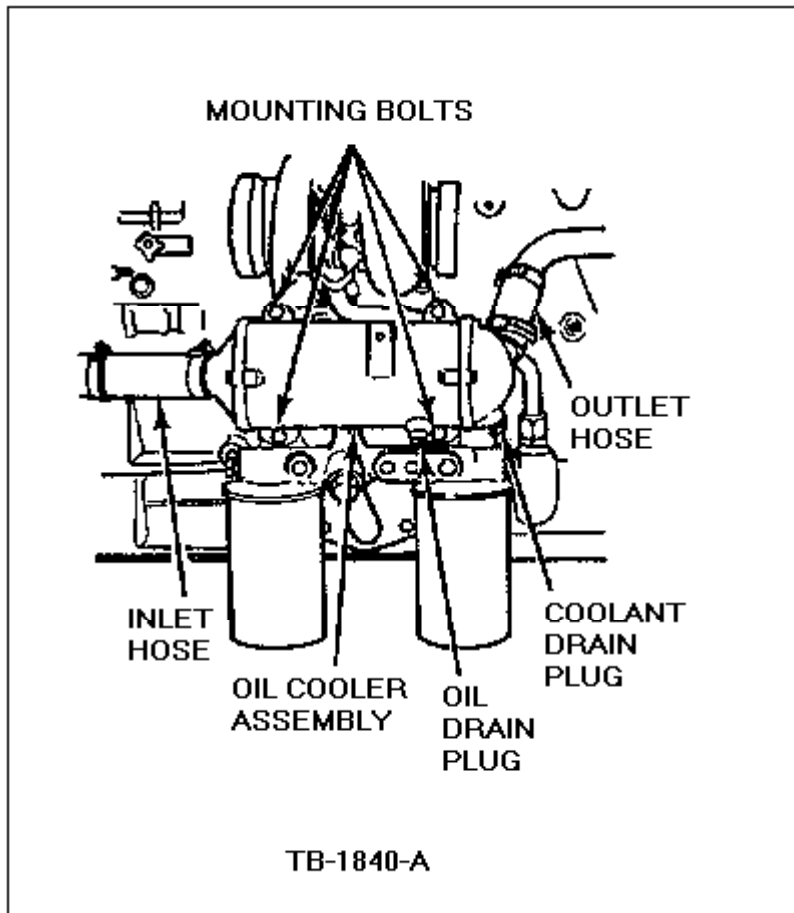
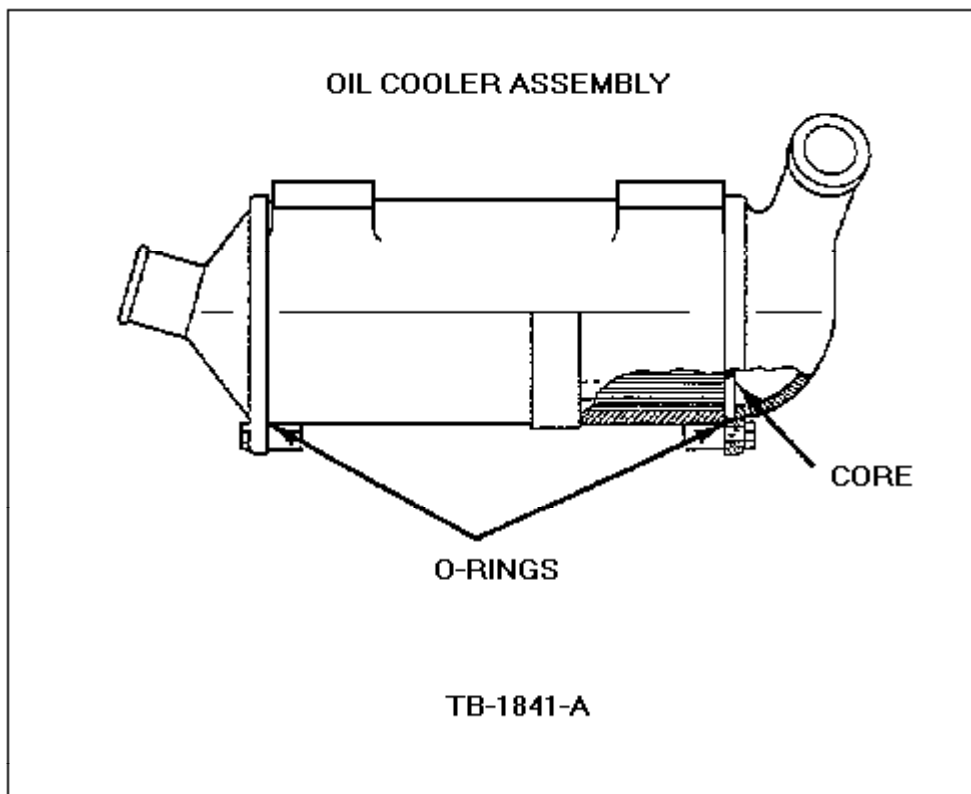

Figure 1 - Article 90-20-9
Figure 2 - Article 90-20-9
1. Remove the oil drain plug from the bottom of the oil cooler. The drain plug is located near the center of the cooler, Figure 1.
1. Loosen the clamp on the oil cooler inlet front tube, Figure 1.
2. Remove the three (3) bolts at the front end cap of the oil cooler.
4. Install new "O" ring (E7HZ-6K649-A) around the lip of the oil cooler core, Figure 2.